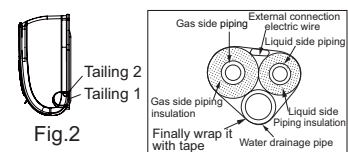

Fig.2
1. When routing the piping and wiring from the left or right side of indoor unit, cut off the tailings from the chassis when necessary (As shown in Fig.2)